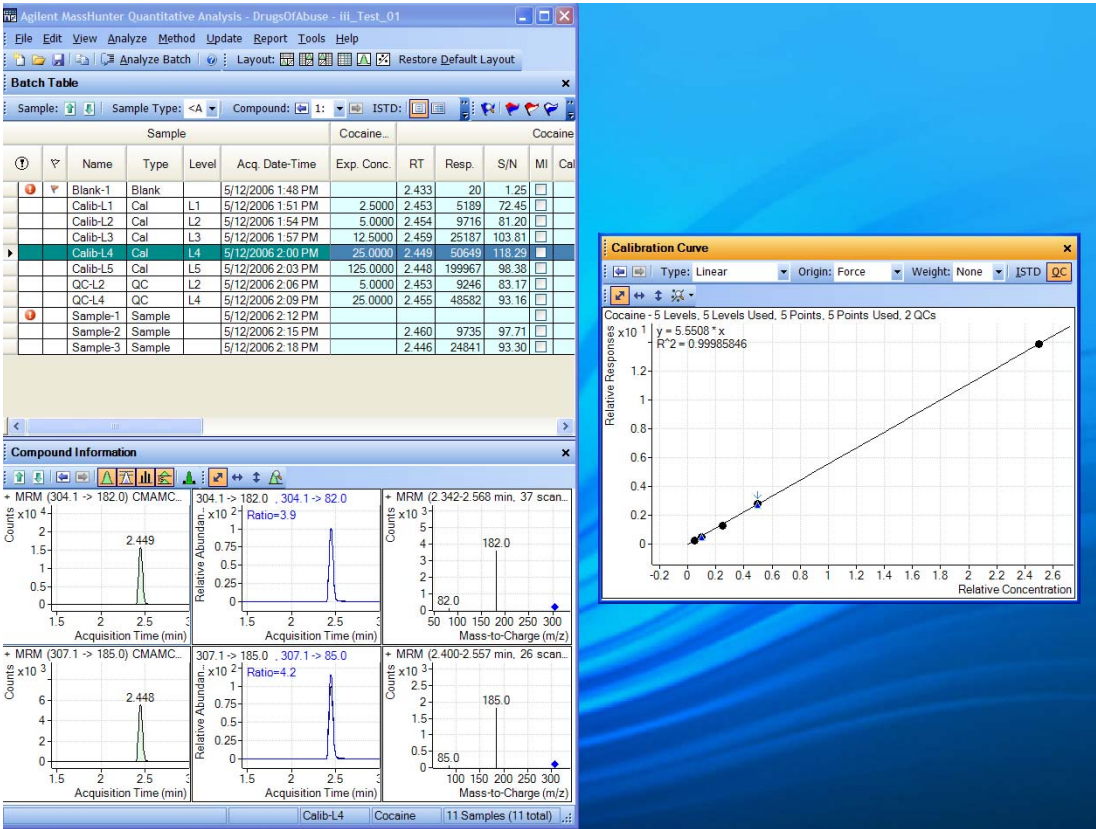

Figure 10 Resized window
- f Resize the windows to match the layout in Figure 10.